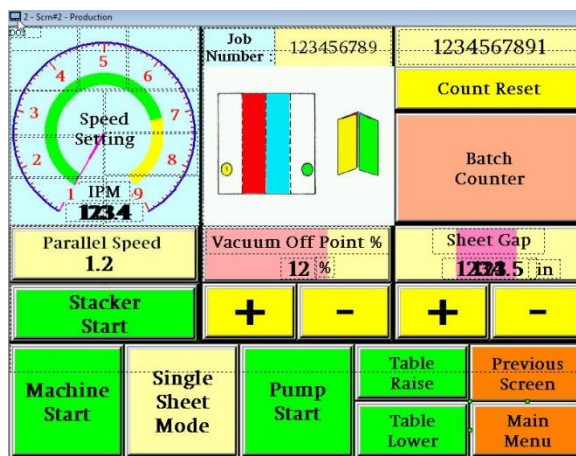

Figure 14
- From the **home** screen, press the center top button with the image of the current fold. See figure 14. If the home screen has a purple **Feeder Setup** button instead of the current fold image, see the previous section **Setting up a new Feeder** to Turn Fold Selection ON.